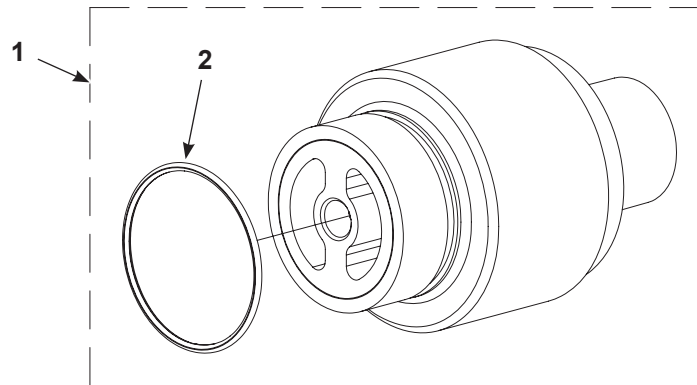

Figure 8-2 XD Electrode Support Assembly
B. Refer to Figure 8-2 and parts list for repair parts for the XD Electrode Support Assembly kit.
See Figure 8-2.